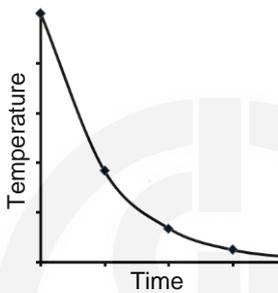

**Fig. 5.10: Representation of isobaric expansion and isothermal compression on V-T and p-T diagrams.**
5. The diagrams are shown in Fig. 5.10. Here  $i$  and  $f$  represent initial and final states respectively.